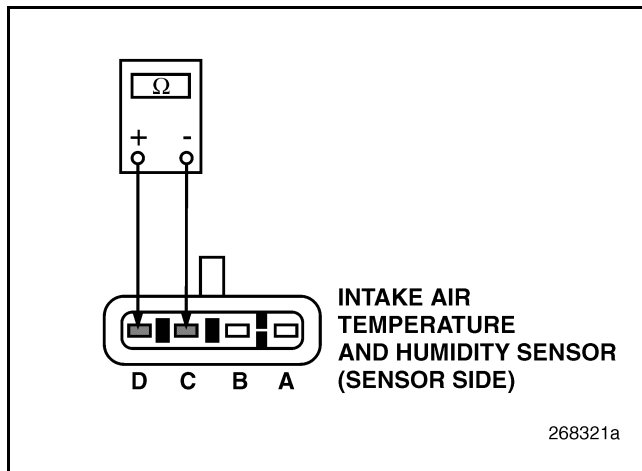

Figure 293
3. Measure the resistance between pins C and D of the IATH Sensor with the ambient air temperature between 32° and 104°F (0° and 40°C) (see Figure 293).